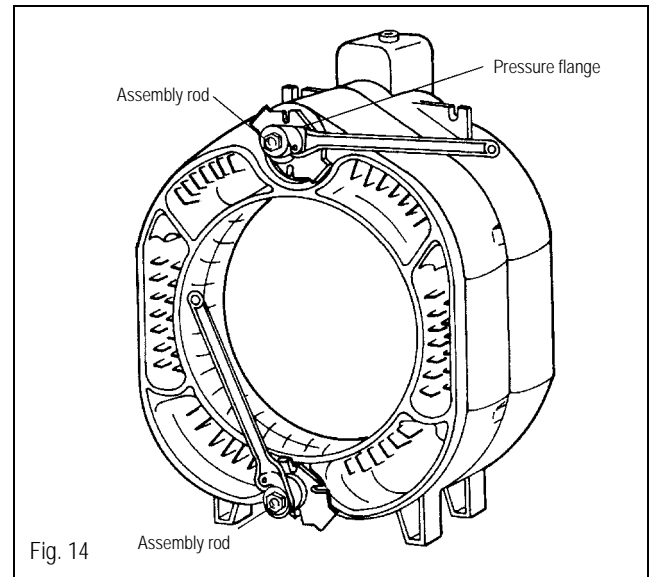

Fig. 14
- Place assembly rods through upper and lower ports as shown (Fig. 14).